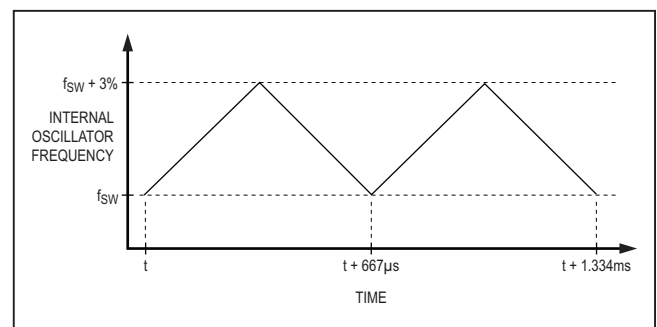

Figure 4. Effect of Spread-Spectrum on Internal Oscillator
The PMICs feature a linear spread-spectrum (SS) operation, which varies the internal operating frequency between f_{SW} and $(f_{SW} + 3\%)$. The internal oscillator is frequency modulated at a rate of 1.5kHz with a frequency deviation of 3% (see Figure 4). This function does not apply to an oscillation frequency applied externally through the SYNC pin. Spread spectrum is a factory-selectable option. See the *Selector Guide* for available options.